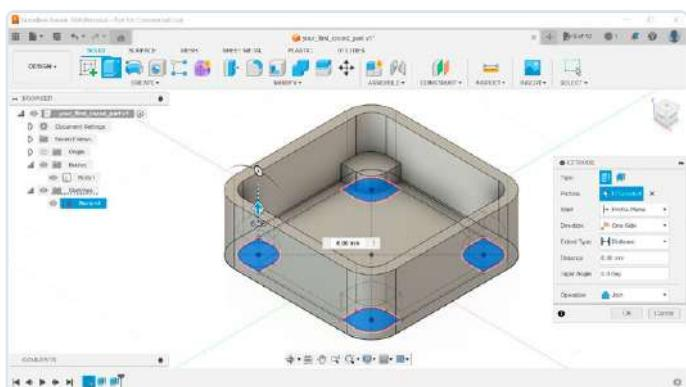

Figure 12: Extruding the four supports.
12) At this point, we can again finish editing the sketch by clicking the *Finish Sketch* button, and we can extrude the supports. With the body visible, it might be hard to select the required faces from the sketch. An easier solution is to hide *Body1* temporarily in the browser, select the *Extrude* tool (**Figure 12**), and select the shapes from the sketch. However, before extruding, you need to show *Body1* for the supports to be connected with this body. The distance should be 6 mm, and, in the *Extrude* dialog, ensure that the *Operation* is set to *Join*.